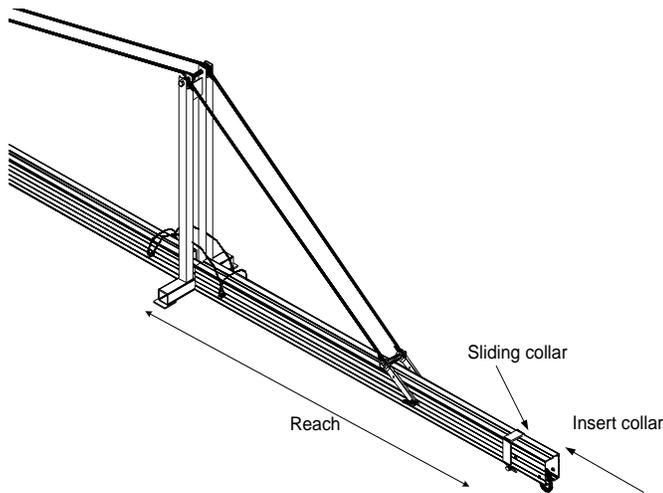

Figure 15. Reach with Sliding Collar
5. Attach the suspension cable to the Front Beam pear link or to the optional sliding collar (see Figure 15). Only one suspension cable can be attached per beam.
2. You must use a Sliding Collar (WSH 5) in order to work at less than 96” reach. Install the Sliding Collar as shown in Figure 15. Reach is calculated from the base of the Cable Truss Support.